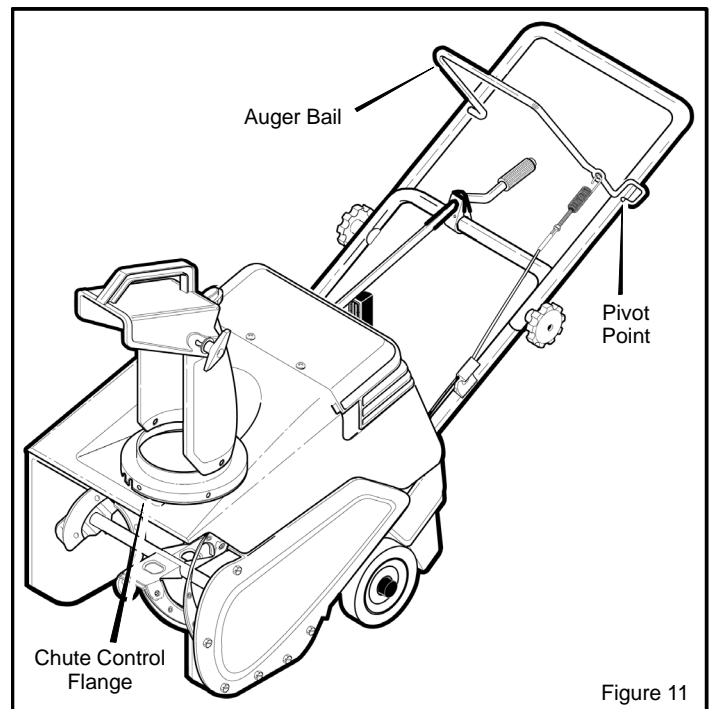

Figure 11
1. Lubricate the **chute control flange**. Apply a clinging type of grease such as Lubriplate (see Figure 11).
2. Apply oil to the **pivot point** on each side of the **auger bail** (see Figure 11).